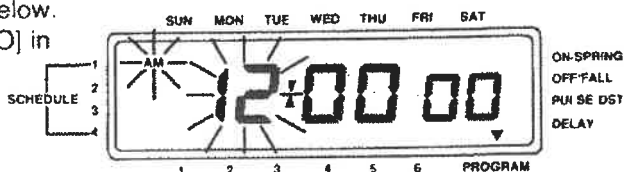

Figure 12
- The display digits show HR:MINS SECS (See Figure 12 for display)
The display digits show HR:MINS SECS (See Figure 12 for display)